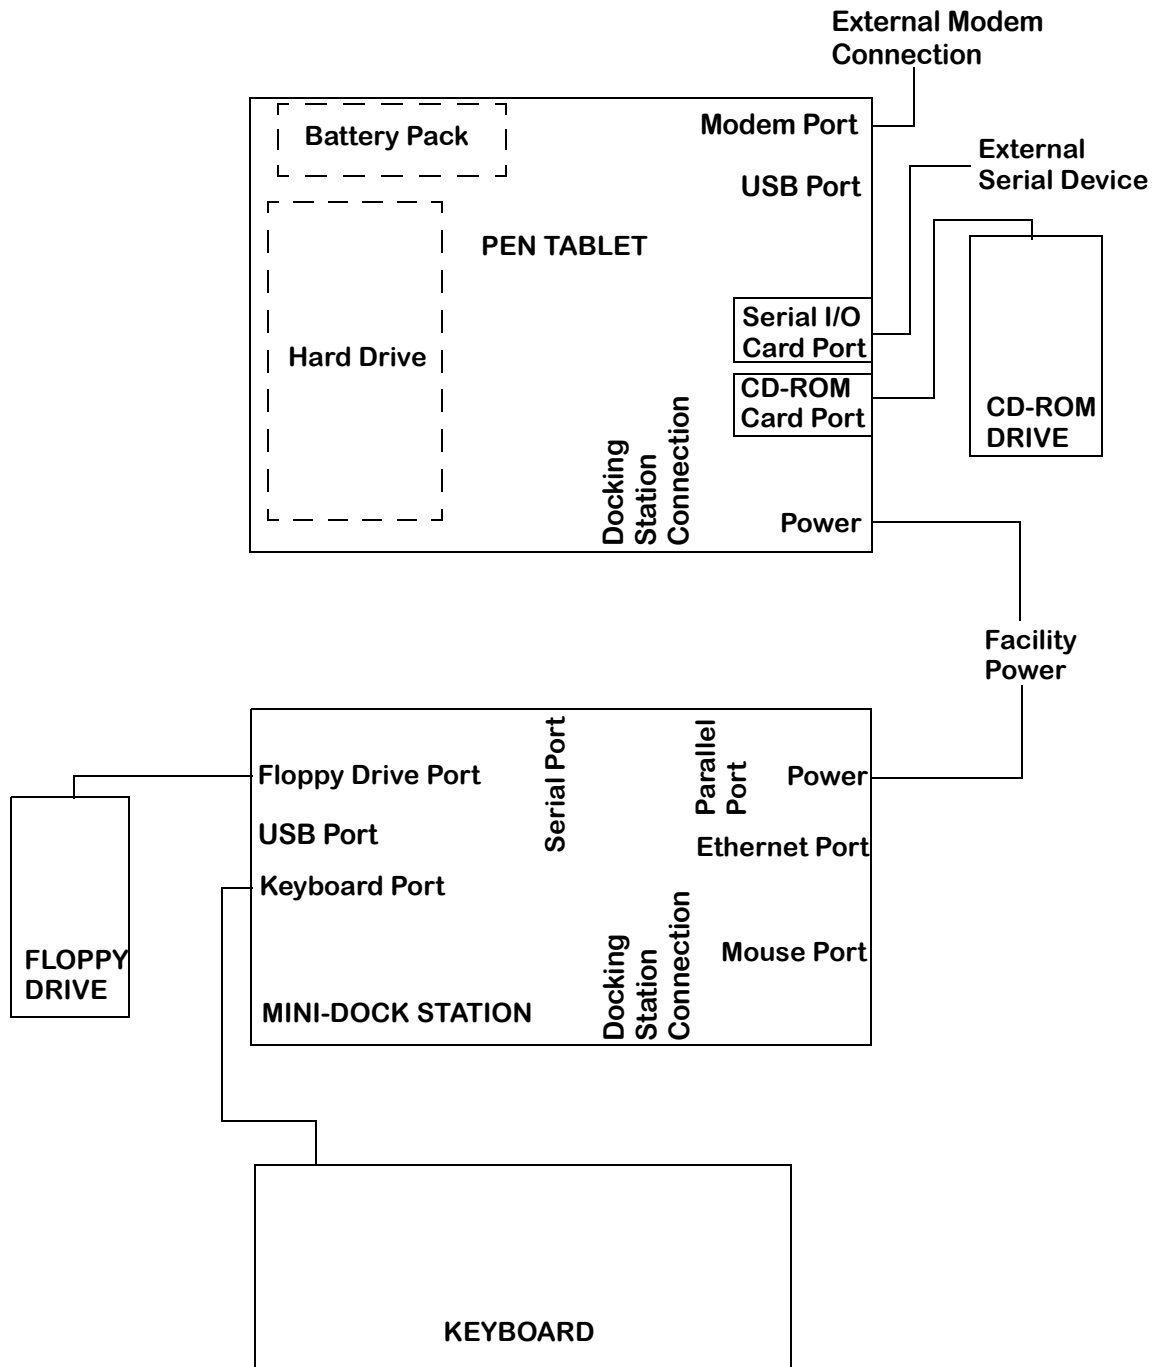
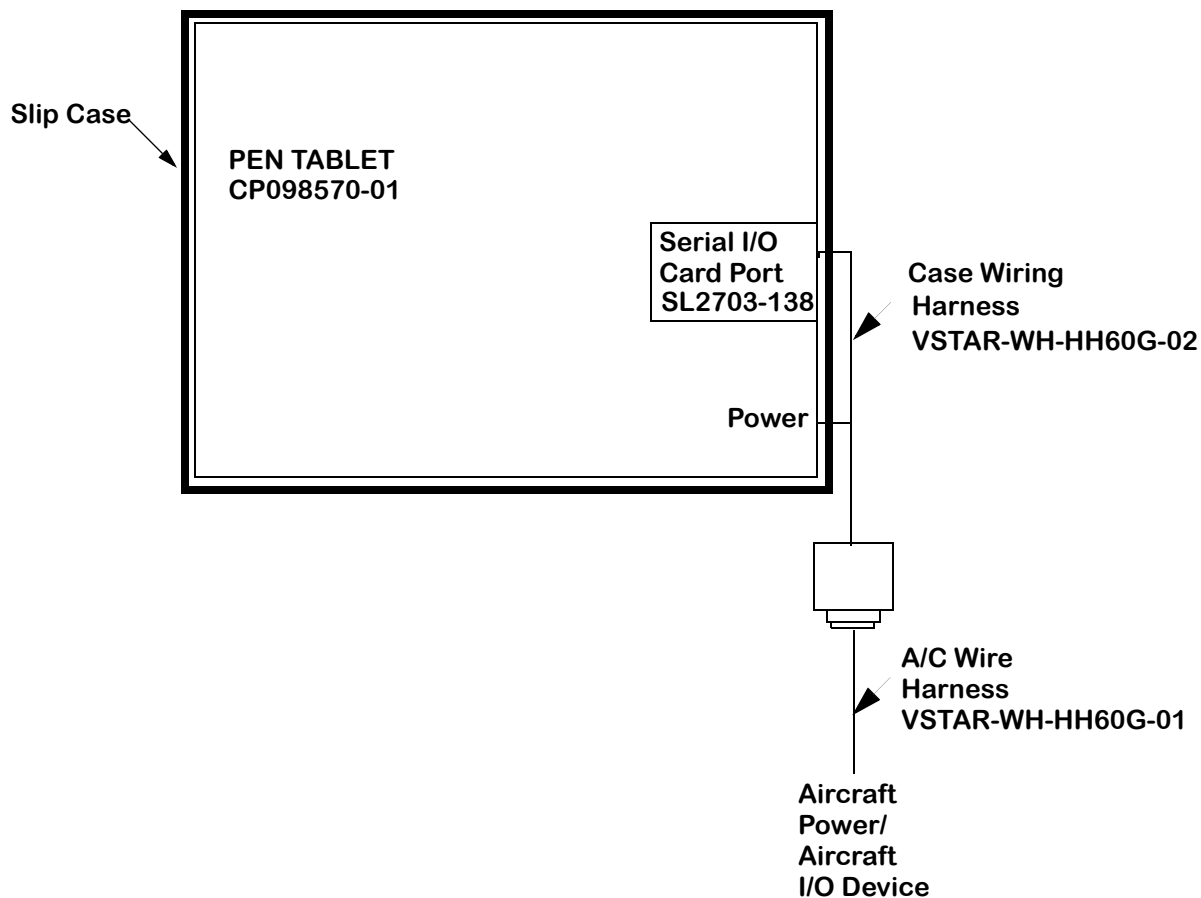

Figure 22 PFPS Functional Block Diagram Mini-Dock Station Configuration
Figure 27 PFPS Interconnect Diagram With Slip Case Configuration
- b. Remove fault item, refer to **Figure 22** through **Figure 27.**
- a. Install replaced item, refer to **Figure 22** through **Figure 27.**